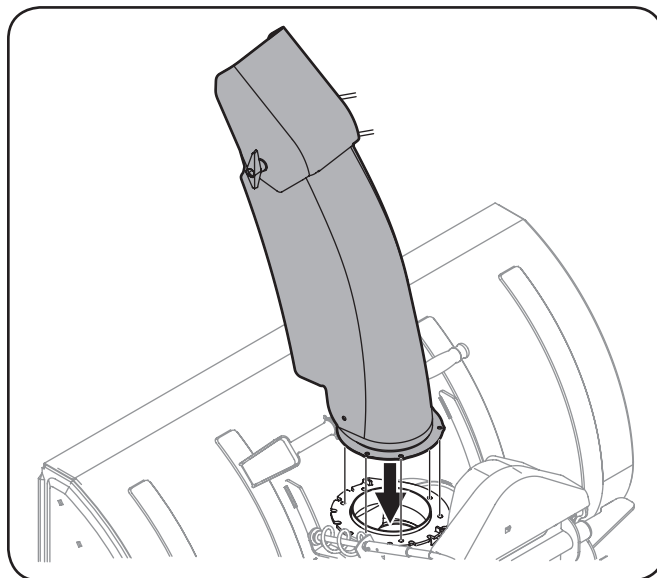

Figure 3-17
3. Position the chute assembly (facing forward) on the chute ring. See Figure 3-17.